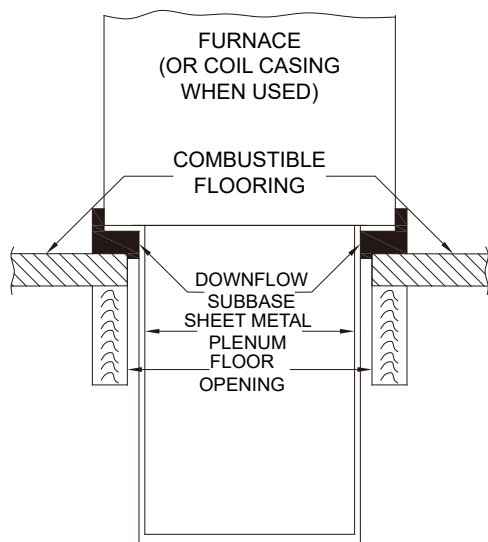
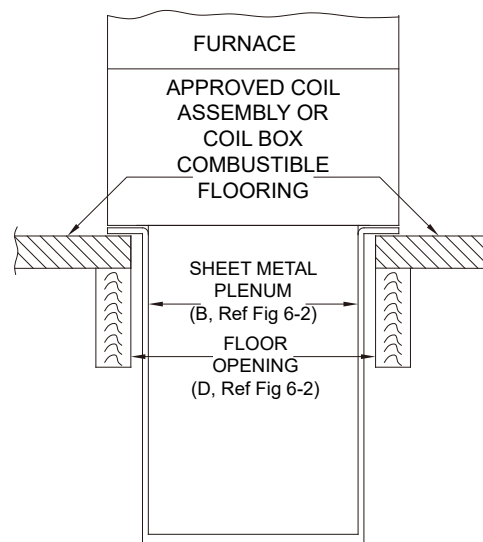

Fig. 6-3 Furnace, Plenum, and Subbase Installed on a Combustible Floor
Fig. 6-4 Furnace, Plenum, and Coil Assembly or Coil Box Installed on a Combustible Floor
4. If down flow subbase is used, install as shown in Fig. 6-3. If Coil Assembly or Coil Box is used, install as shown in Fig. 6-4.